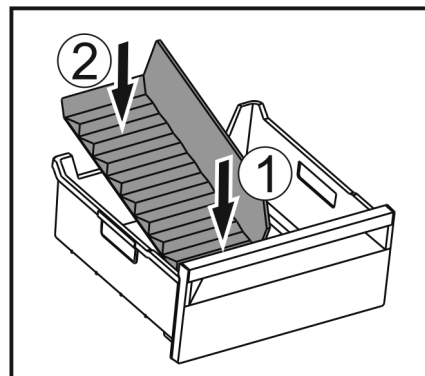

Fig. 139
- ▶ Insert the front part of the ice compartment divider. *Fig. 139 (1)*
- ▶ Lower the rear part of the ice compartment divider to the drawer bottom. *Fig. 139 (2)*